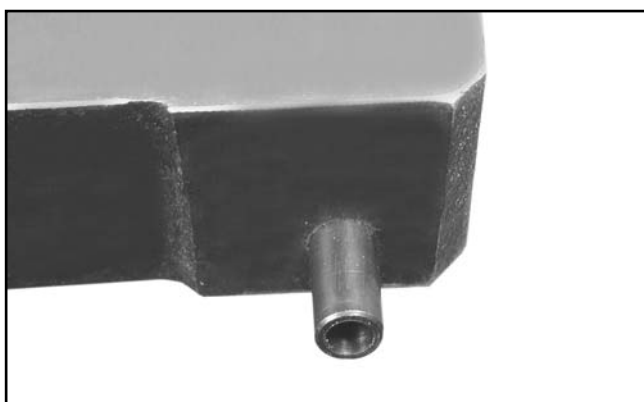

Figure 6. Spacer in table recess.
1. Place the two spacers in the table, similar to **Figure 6**.